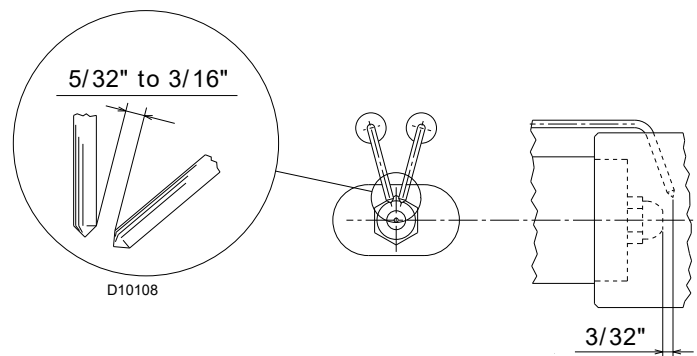

Fig. 12
Make sure that the electrodes are positioned as shown in Fig. 12.
- Make sure that the electrodes are positioned as shown in Fig. 12, page 18.